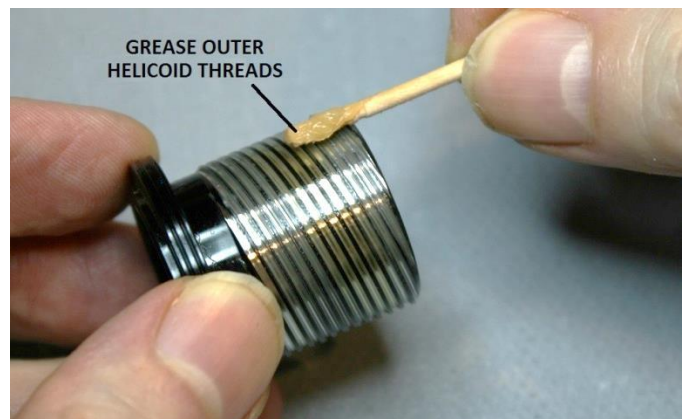
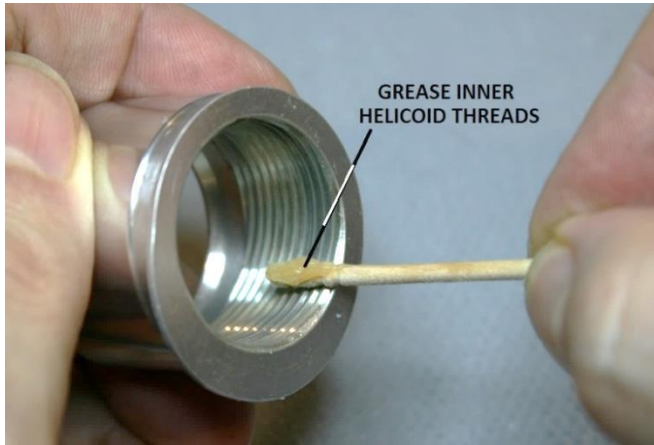

Figure 38 – Apply fresh grease to the outer helicoid threads
Figure 39 – Apply fresh grease to inner helicoid threads (left)
Apply a very light coating of fresh helicoid grease (item 6 of Appendix 1) to the outer helicoid threads of the black helical tube (see Figure 38) and to the inner helicoid threads of the polished inner tube (see Figure 39).